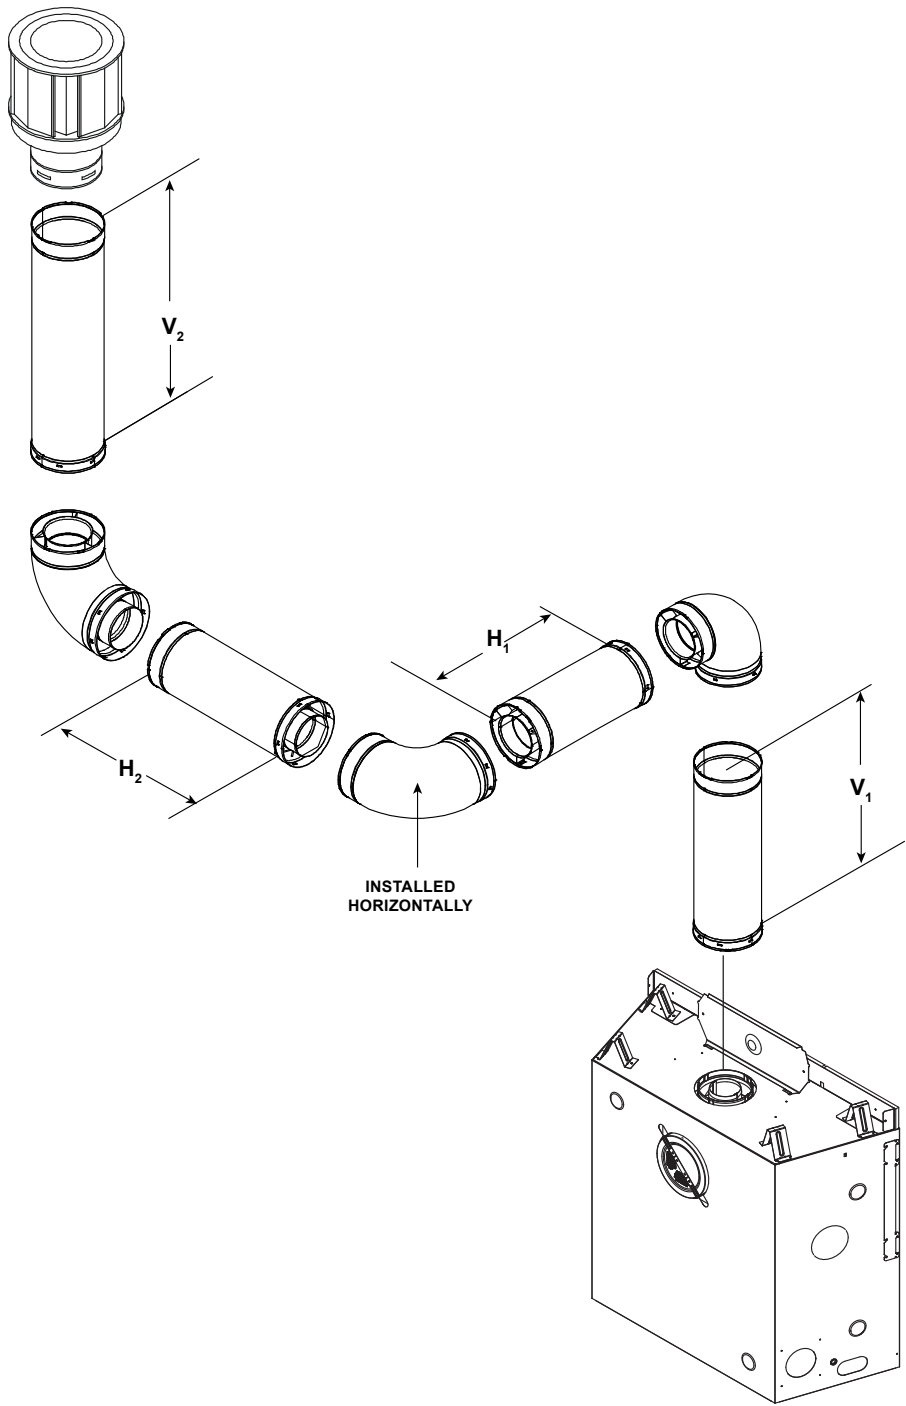

Figure 4.16
- **Top Vented:** A maximum of four 90° elbows (or eight 45° elbows) may be used in any vent configuration. Some elbows may be installed horizontally. See Figure 4.16 and 4.17.